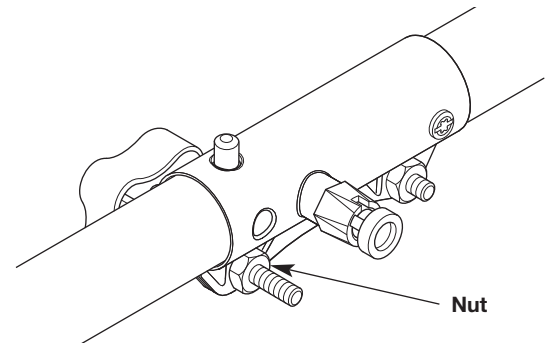

Fig. 4
**NOTE:** Do not tighten the nut (Fig. 4).